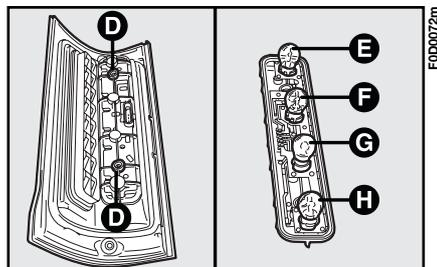

fig. 21
- 3) loosen the two screws **D**-fig. 21 and remove the light cluster: